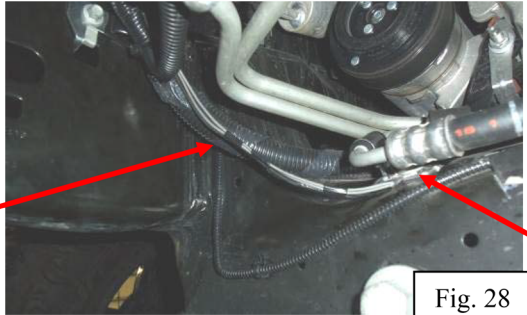

Fig. 28
- Remove the 8mm bolt holding the power steering lines to the cross member (Fig. 28). Attach the gray and black ground wires from the relays using the 8mm bolt. Tighten the bolt. Zip tie the wires to the factory wire harness that is along the frame rail.